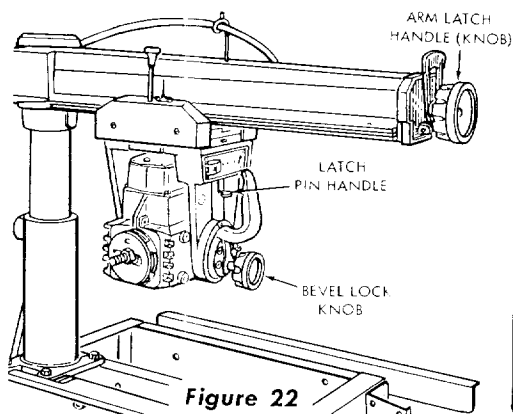

Figure 22
- n. Loosen the bevel lock knob, lift the latch pin handle, and rotate the motor to a horizontal position. (See figure 22.) Tighten the bevel lock knob.